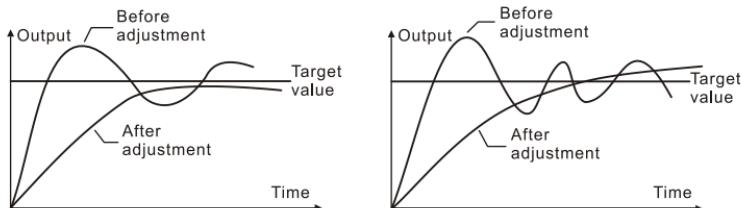

Figure 6-15 Suppress Output
F133 and F134 must be used in coordination with F060, F061 and multi-function output terminal and mainly used for addition and reduction of auxiliary pumps. Refer to Figure 6-15 for details.
- 6) Refer to the descriptions in Figure 6-15/6-16 for specific application.